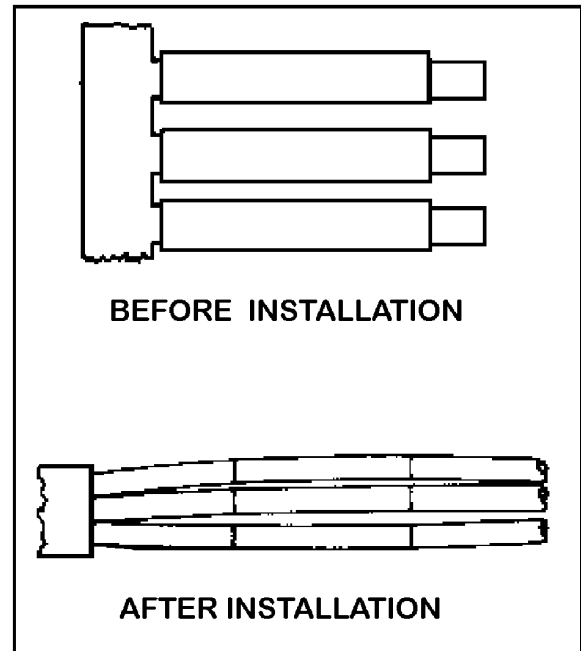

FIGURE 11-26. Standard sleeves (135 °C).
**SLEEVE AND TAGS.** Typical cable markers are flat, nonheat-shrinkable tags. Heat-shrinkable marking sleeves are available for marking wires and cables, and should be inserted over the proper wire or cable and heat-shrunk using the proper manufacturer recommended heating tool. (See figures 11-26 and 11-27.)